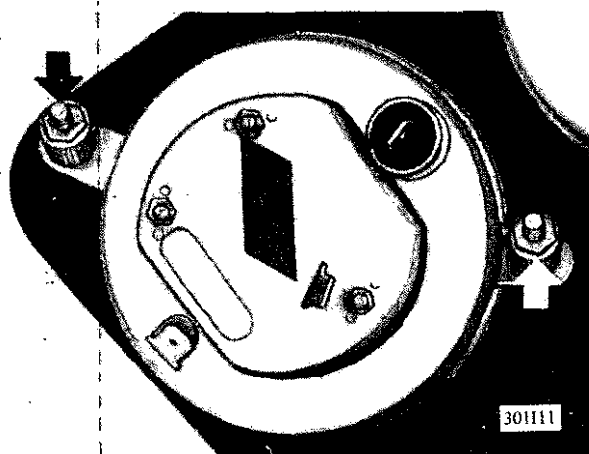

Figure 1 I-11 Rear View of Electrical Clock
3. Disconnect electrical wires. See Figure 1 I-1 I.